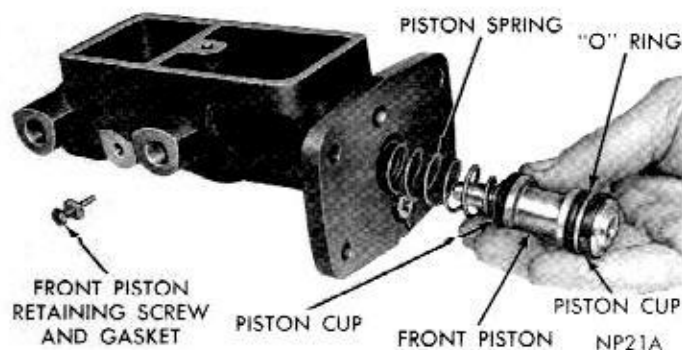

Fig. 5—Installing Front Piston and Spring
(5) Install piston spring, piston cup retainer, piston and cups into bore of master cylinder (Fig. 5).